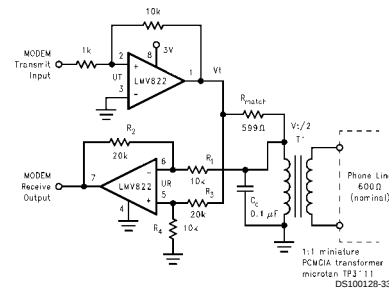

FIGURE 7. Telephone-line Transceiver for a PCMCIA Modem Card
The telephone-line transceiver of Figure 7 provides a full-duplexed connection through a PCMCIA, miniature transformer. The differential configuration of receiver portion (UR), cancels reception from the transmitter portion (UT). Note that the input signals for the differential configuration of UR, are the transmit voltage (V_t) and $V_t/2$. This is because R_{match} is chosen to match the coupled telephone-line impedance; therefore dividing V_t by two (assuming $R_1 \gg R_3$). The differential configuration of UR has its resistor chosen to cancel the V_t and $V_t/2$ inputs according to the following equation: